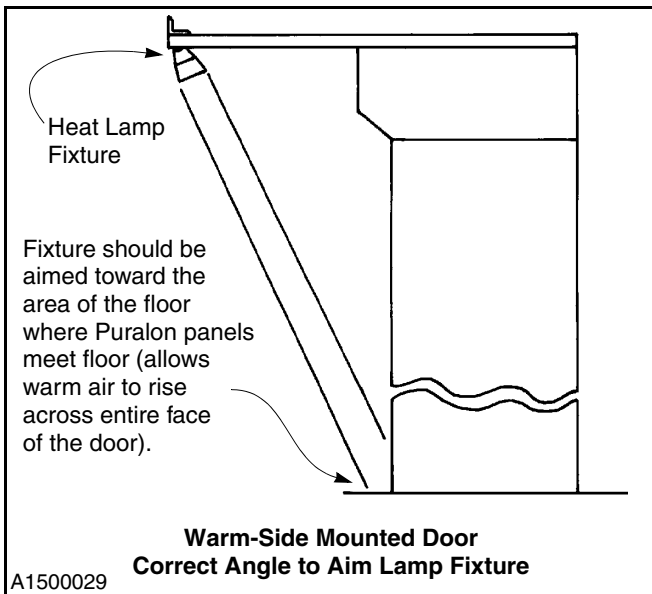
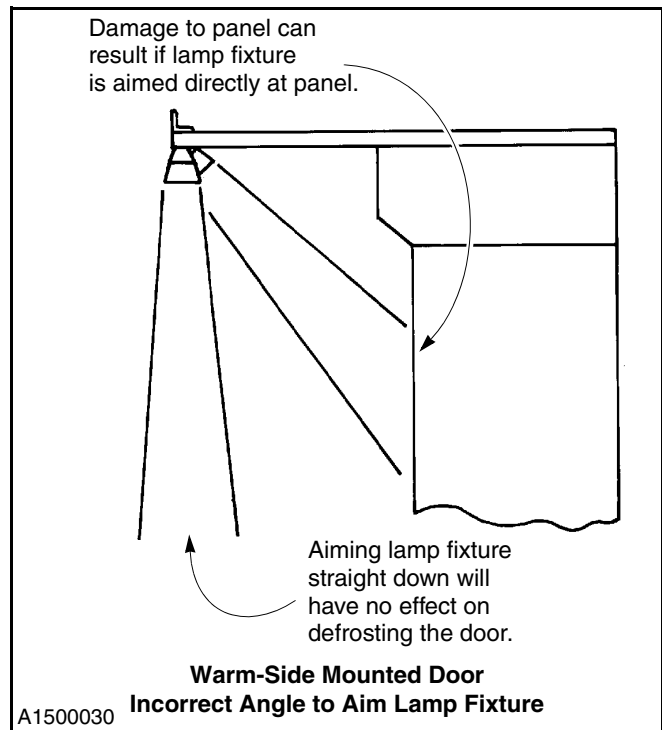
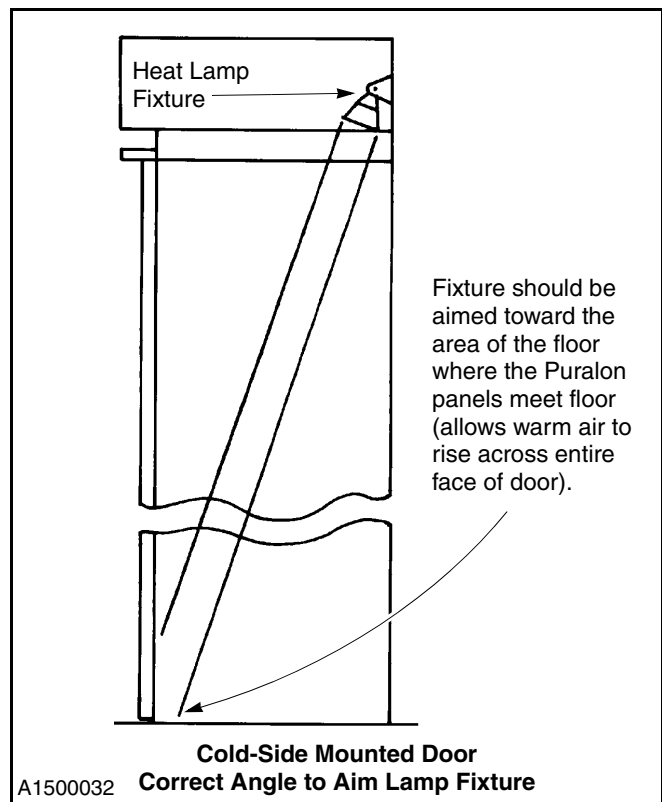
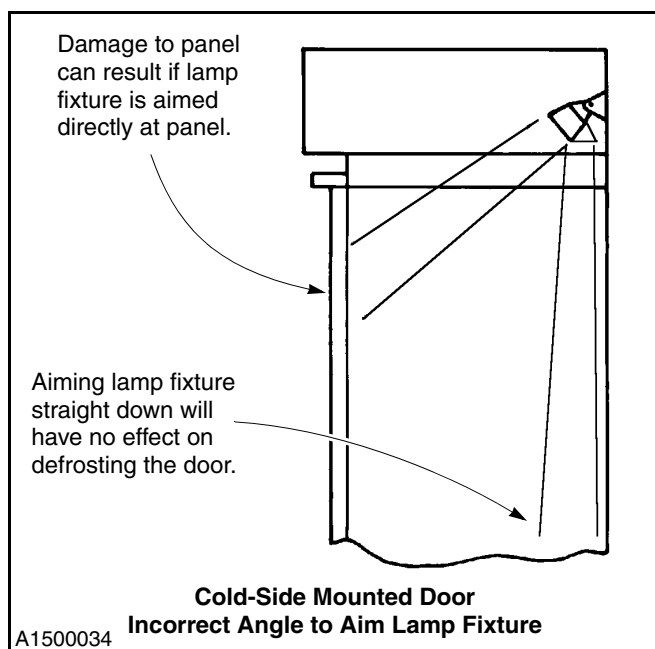

Figure 24
Figure 25
Figure 26
Figure 27
Figure 24 and Figure 26 show the correct angle to aim a heat lamp. Figure 25 and Figure 27 show two angles not to use. If the heat lamps require adjustment, see "Heat Lamp Adjustment (Warm-Side and Cold-Side Mounted Doors)" on page 13.
6. Check the direction of the air flow out of the blower unit — it should be directed toward the lower part of the door when it is closed (similar to what is shown in Figure 24 and Figure 26). If the air deflection fins on the blower unit require adjustment, see "Blower Air Deflection Fin Adjustment" on page 15.